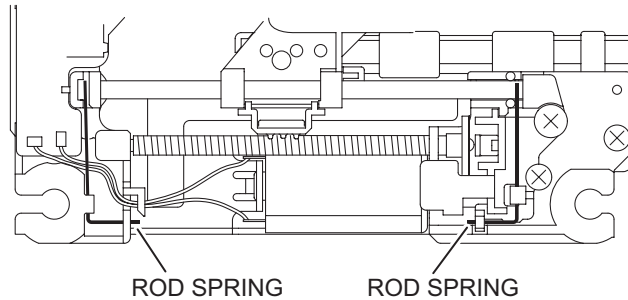

Fig.8
3.2.2 Removing the pickup assembly (See Fig.8 to 12)
- (1) Remove the two rod springs pressing the guide shaft. (See Fig.8)